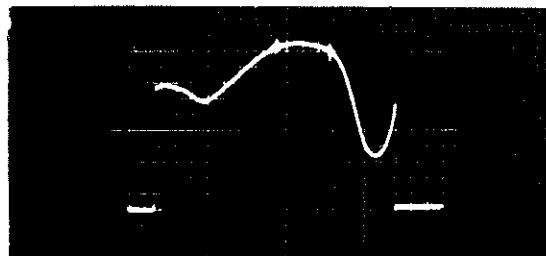
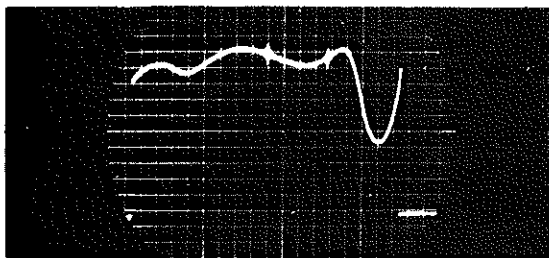

Fig. 35 Aural Amplifier: Correct Bandpass but Too Little Coupling
Fig. 36 Aural Amplifier: Correct Bandpass but Too Much Coupling
- d. Adjust the LOAD switch 7S31 to obtain a response similar to that shown in Fig. 35, 36, or 37. The correct bandpass is shown in Fig. 37. If the bandpass is too narrow, as shown in Fig. 35, or too wide, as shown in Fig. 36, the coupling must be adjusted. To do this, remove the shield covers on the output circuit on each side of the coupling loop. Then, using the box-end ratchet wrench supplied with this equipment, loosen the 1/4-20 hexhead bolts connecting the coupling loop to the output circuit. If the bandpass was found to be too narrow, the coupling loop should be pushed slightly into the cavity to increase the coupling. If the bandpass was found to be too wide, the coupling should be pulled back toward the output circuit to decrease the coupling. Tighten the hexhead 1/4-20 bolts securely and replace the shield covers before proceeding.